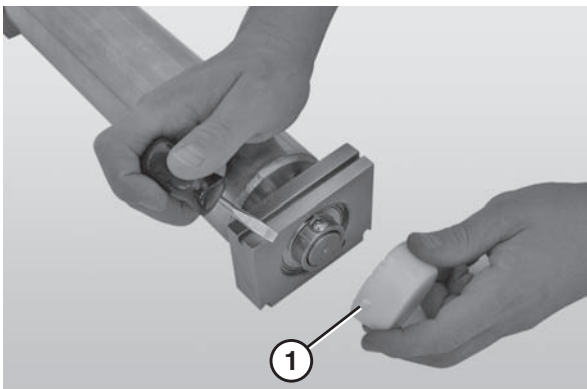

Figure 95
2. Remove the bearing cover (**Figure 95, item 1**).